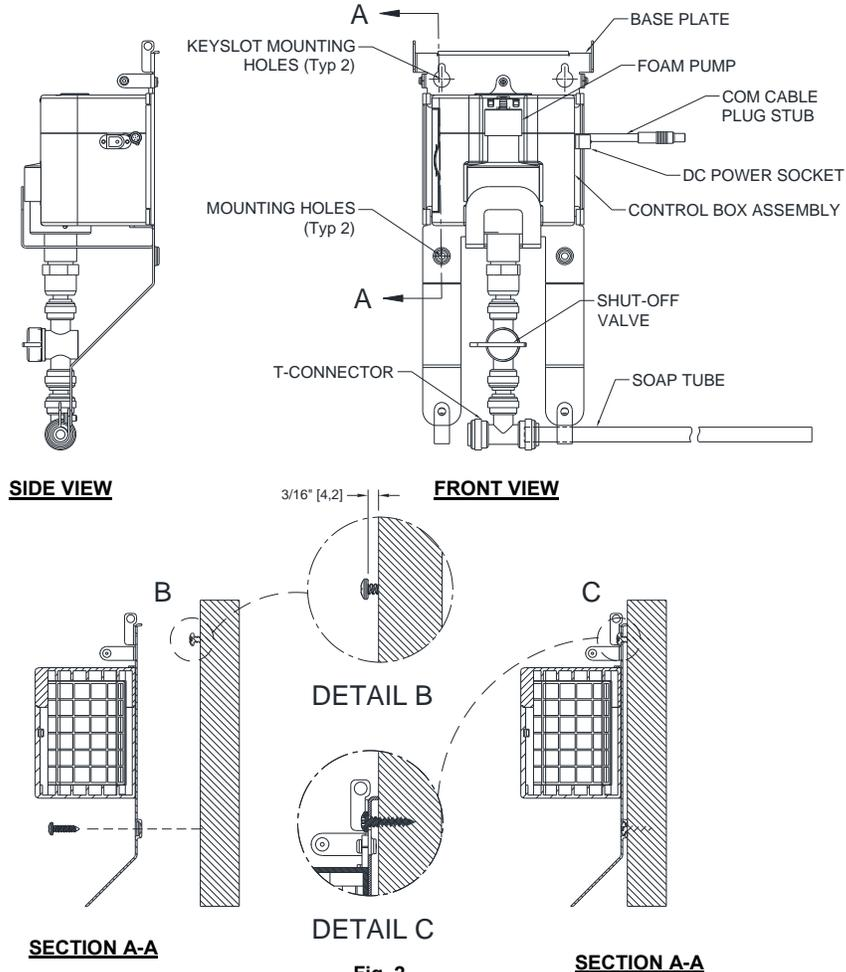

Fig. 2
2. Install FSD Control Module (CM) Model № 0385 under vanity top using four (4) № 8 x 1" {M4 x 25} Phillips pan head self-threading screws (provided) into appropriate anchors (plastic provided; alternates by others) or blocking (by others) to suit site conditions. (See Fig. 2)